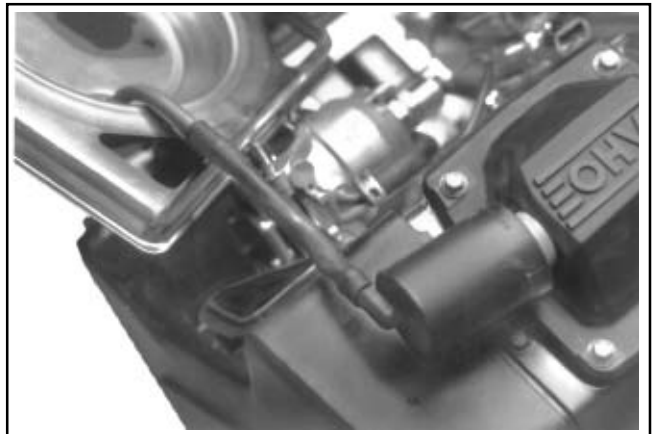

Figure 9-9. Disconnect Breather Hose from Base.
5. Disconnect the breather tube from the nipple on the underside, or the hose from the base (as equipped). See Figure 9-9.